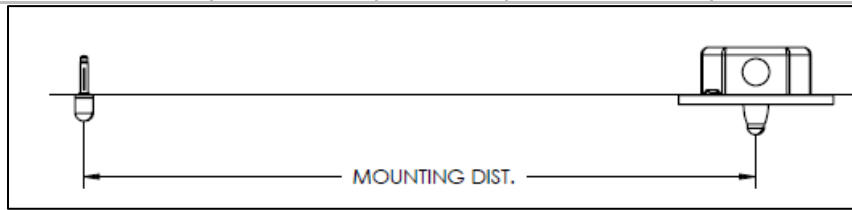

FIG. 10 – MOUNTING INFORMATION
- MARK THE LOCATION FOR THE ANCHORS FROM J-BOX (BY OTHER) as per MOUNTING CHART INFORMATION (see table) and MOUNTING DISTANCE as shown in FIG.10.